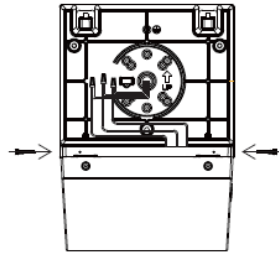

Fig. 1.6
7. Attach the front cover of the luminaire back to the mounting plate and tighten both screws on the side of the luminaire (Fig. 1.6).